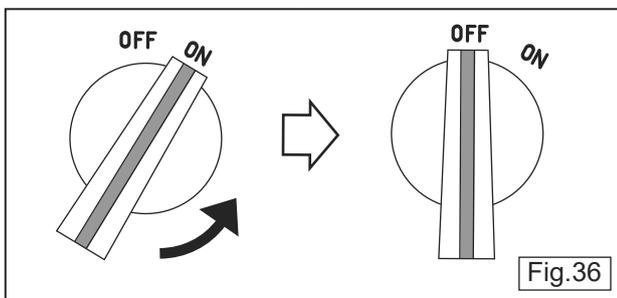

Fig.36
- 2 In case of MVH-308GH/408GH: Turn the engine switch to the OFF position, then the engine stops. (Fig. 36)